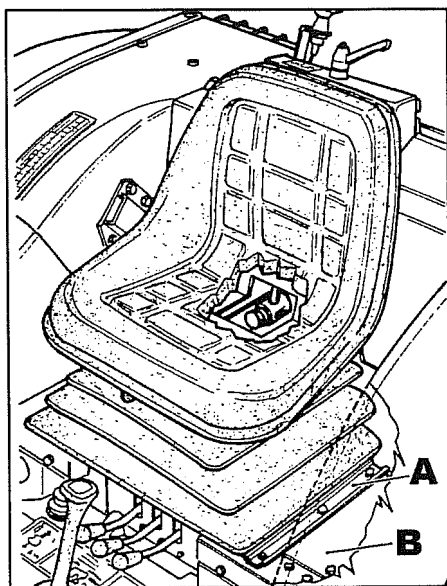

Fig. 1
- 1 Unfasten the left bar **A** fig. 1 that retains the seat mount guard.
Remove the guard **B** fig. 1.